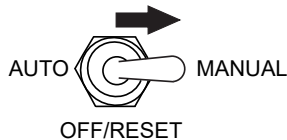

Figure 52. Auto Start/Stop Switch (Manual Position)
2. To start the engine, place the **Auto Start/Stop switch** in the **MANUAL** position (Figure 52).